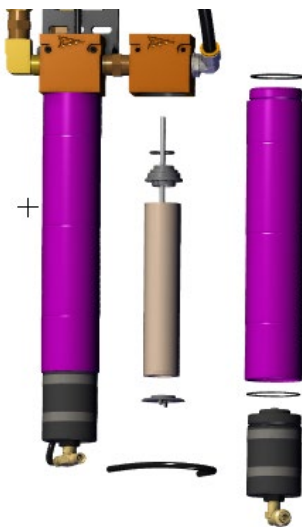

Figure 2
- Remove bottom baffle, filter element, top adaptor, and O-ring. Figure 2